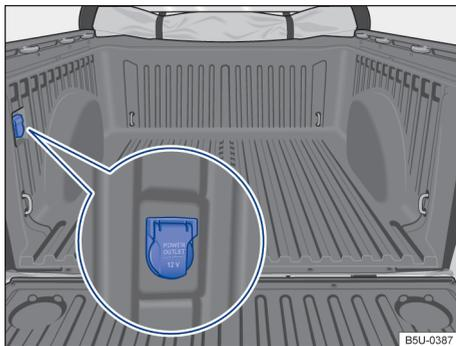

Fig. 108 Luggage compartment: 12-volt socket.
- The 12-volt socket is located on the internal luggage compartment → Fig. 108 (not available in some vehicle versions). ▶